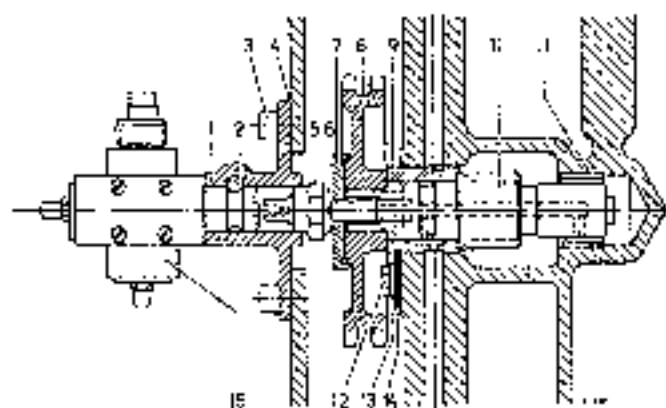

Fig. 01-4/52
On Model 190 5L the idling gear shaft (10), via the driving screw (5), also drives the angle drive for the revolution counter (15). The idling gear (8) has a shoulder on the end face which carries the centering disk (7) for the driving screw (5) (Fig. 01-4/52). On no account should an idling gear without shoulder be installed in Model 190 5L.
In place of the cover plate, the flange bushing (1) with the angle drive for the revolution counter (15) is screwed to the crankcase (Fig. 01-4/52). See also Fig. 01-4/53, Nos. (5) and (4).